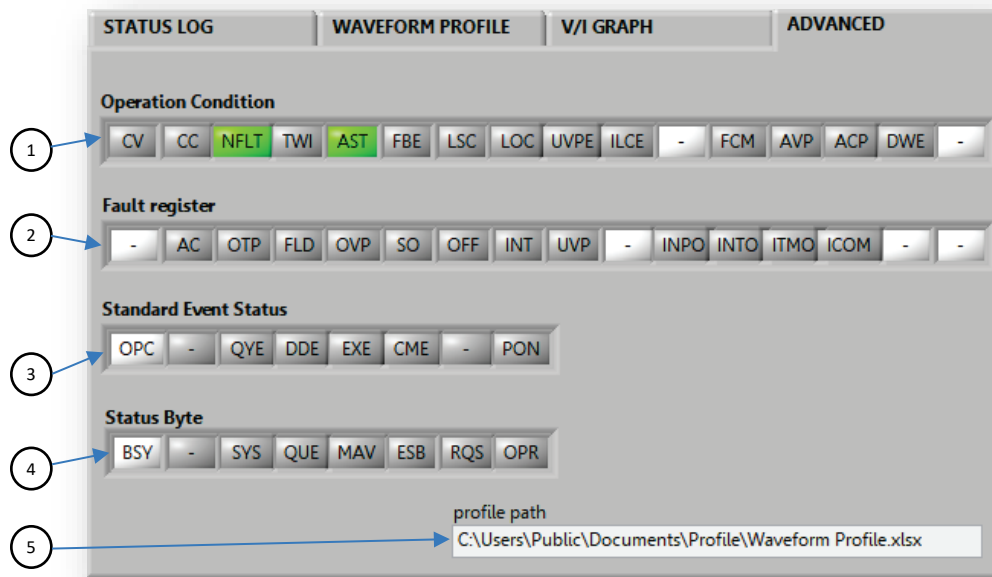

Figure 26
- 2.3.4 Set start and stop offset points of segment (for all forms). Refer to Figure 26.